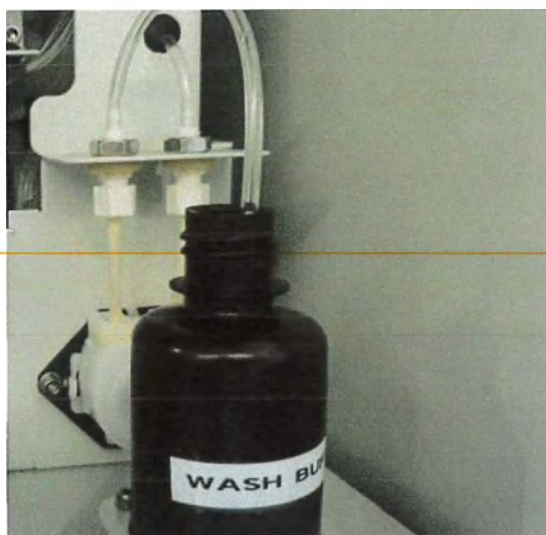

Figure 46
9.5.6.1 Fill the solution bottle with distilled water and place it in the buffer bottle tray [Figure 46].